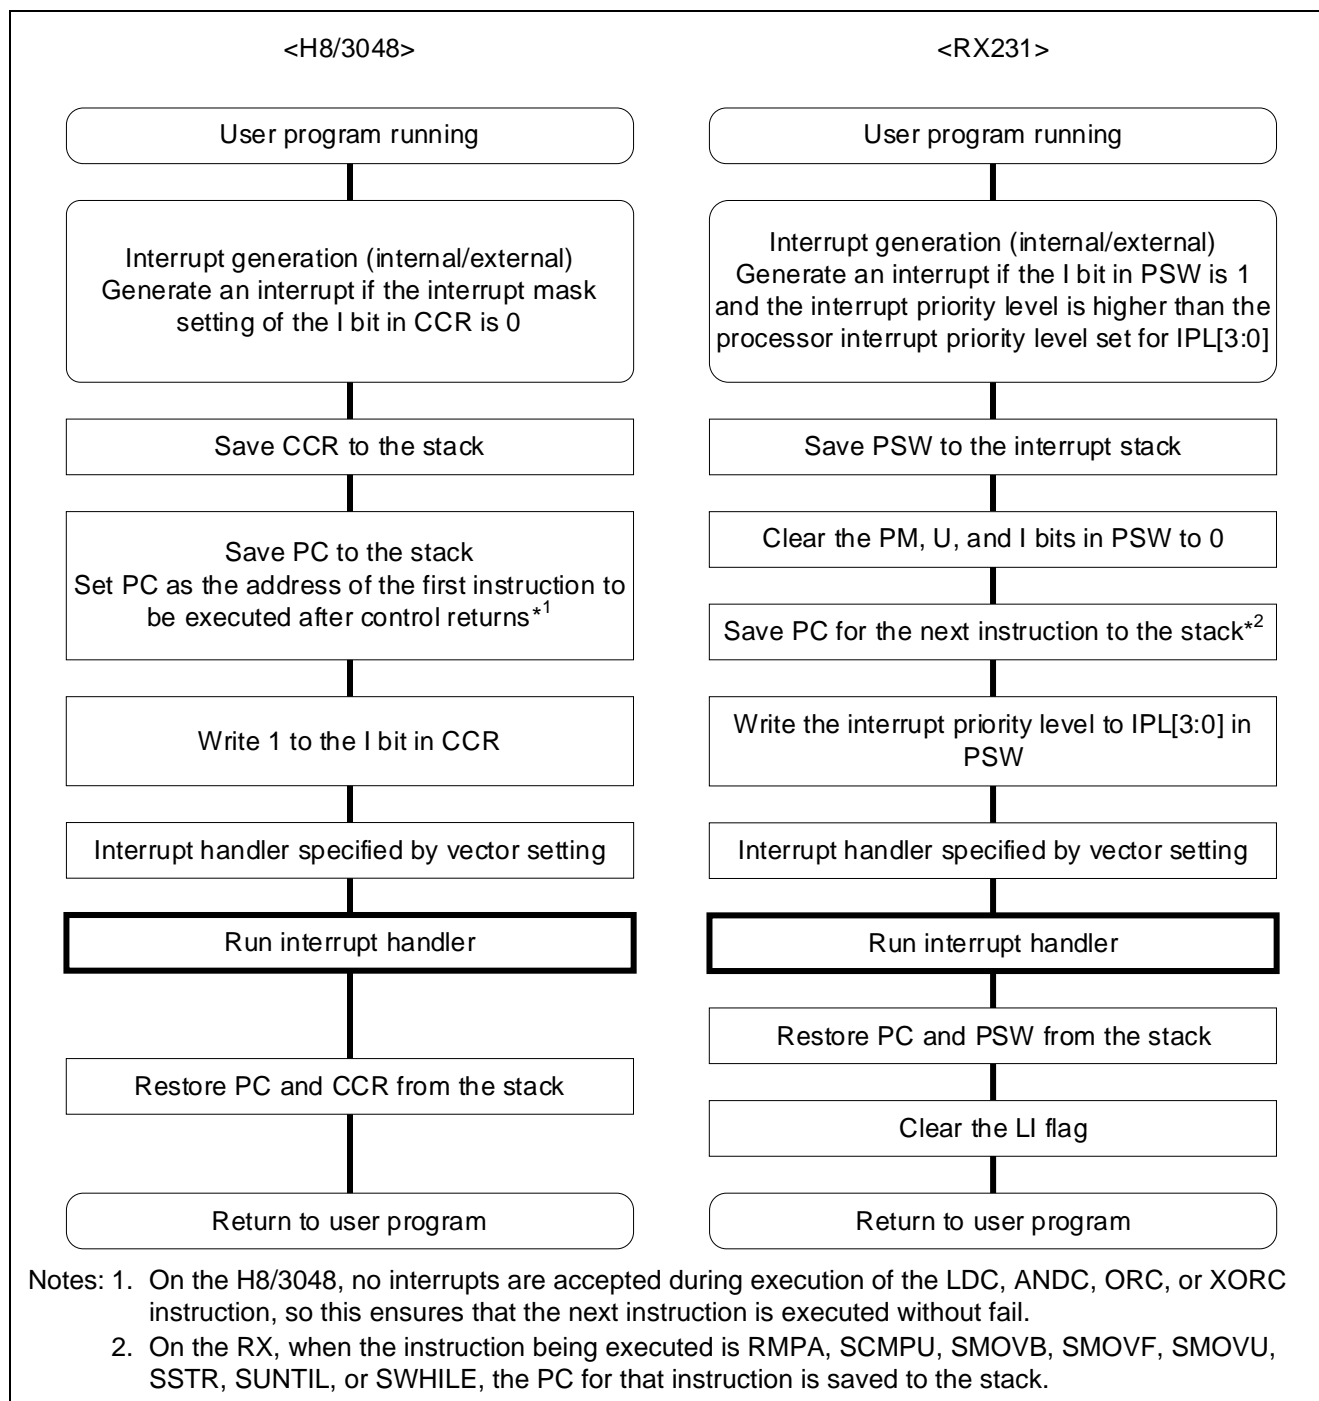

Figure 1.12 Processing Sequence of Interrupt Exception Handling (Internal/External)
2. Figure 1.12 shows interrupt exception handling.
Figure 1.12 shows the processing sequence of interrupt exception handling (internal/external) on the H8/3048 and RX231 devices.